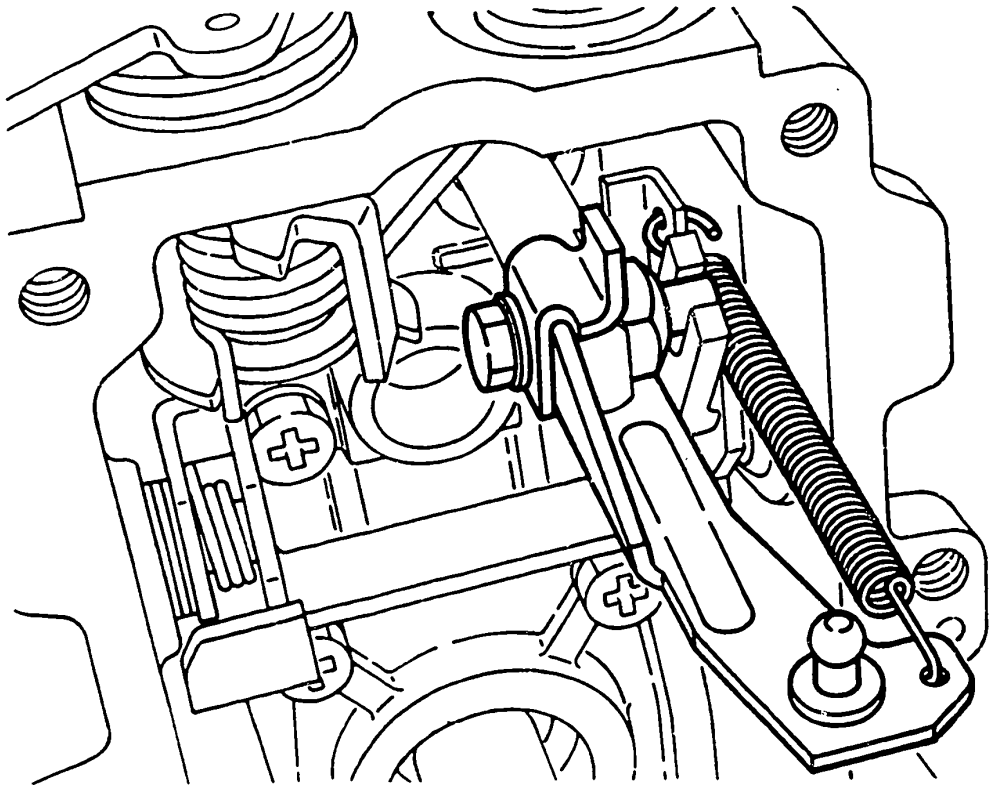

Fig. 71: Starting spring
3. The starting spring is to be suspended with its hook from the top in the hook hole in the connecting link (Fig. 71).